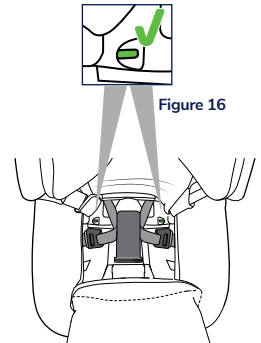

Figure 16
Step 2. Ensure both tension indicators show green after locking the SMART Lock®. (Figure 16).